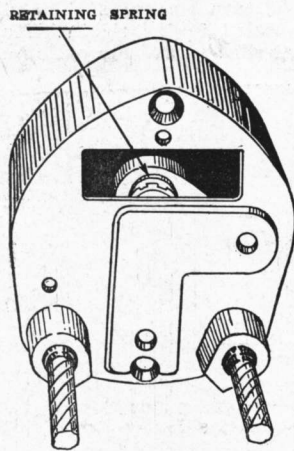

FIGURE 2
3. Reach in through the opening in the back of the control unit with a medium size screw driver and press down on the brass retaining lock spring, at the same time working the lock cylinder forward. (See Fig. 2).